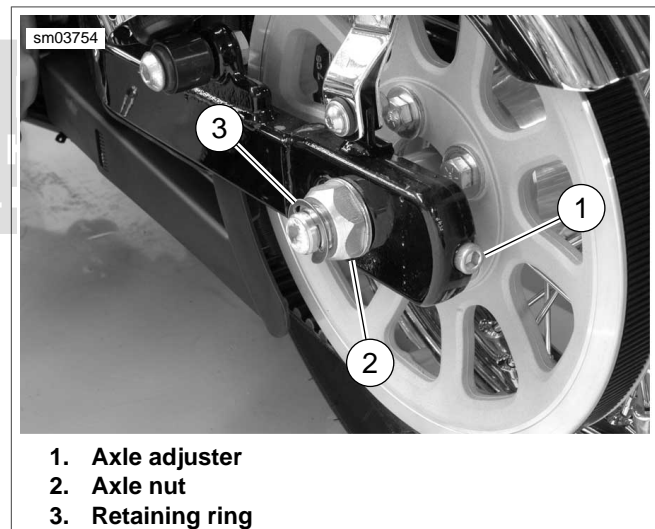

Figure 1-28. Axle Adjusters (Left Side Shown)
1. See Figure 1-28. Remove retaining ring (3) and loosen axle nut (2).
2. Adjust belt tension by turning the axle adjusters (1) an equal number of turns to keep the wheel aligned until the specification in Table 1-11 is achieved.
3. Tighten axle nut (2) to 95-105 ft-lbs (128.8-142.4 Nm).
4. Install retaining ring (3).